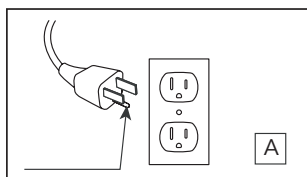

Fig.1
14. Connect to properly grounded outlets only. This heater is for use on 120 V. The cord has a plug as shown at A in Fig.1. Do not use a 2 prong adapter. Always plug heaters directly into a wall outlet/receptacle. **Never use with an extension cord or relocatable power tap (outlet/power strip).**